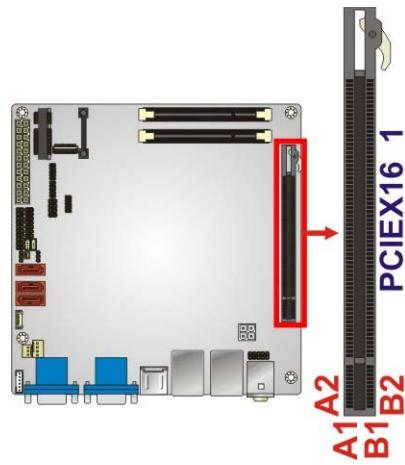

Figure 3-17: PCIe x16 Slot Location
**CN Location:** See Figure 3-17